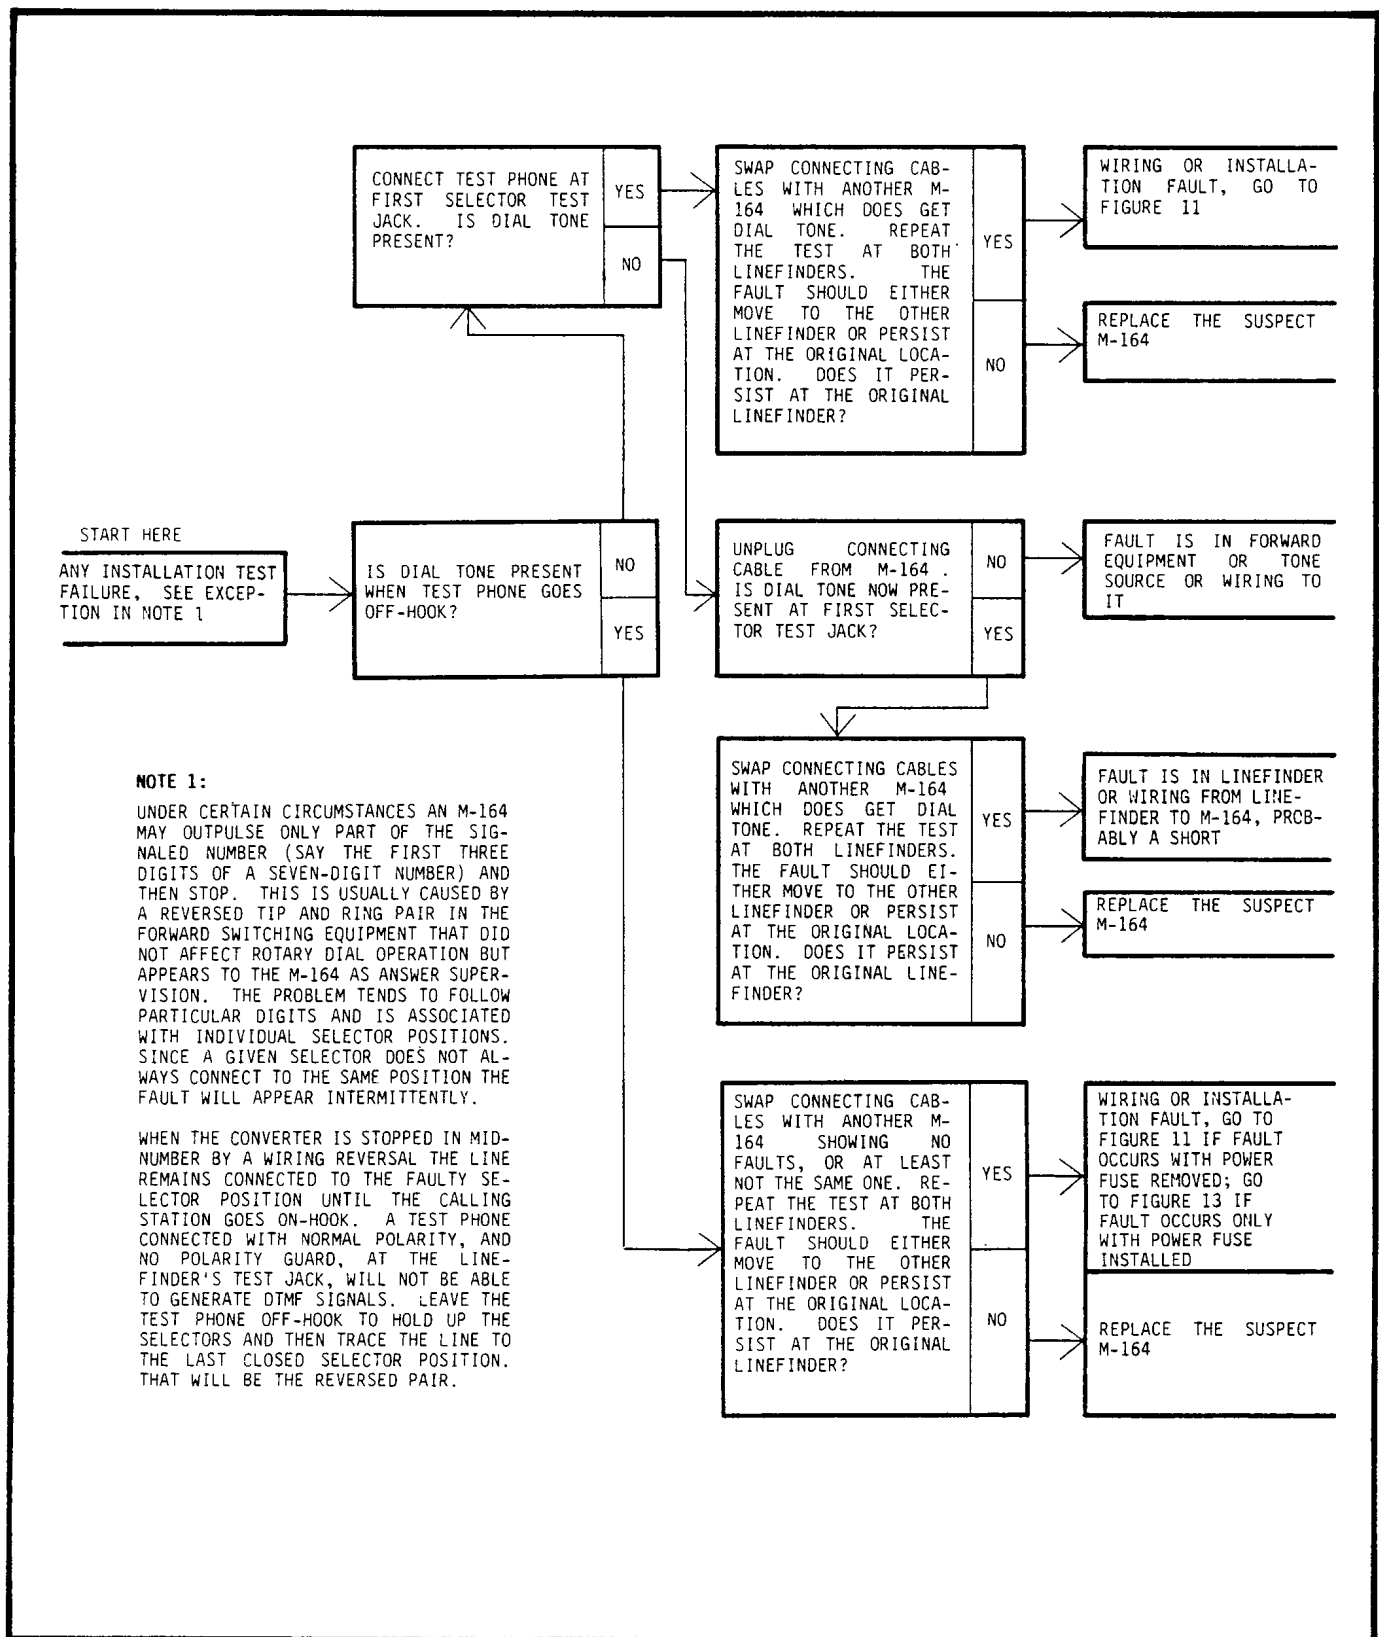

Figure 10 Troubleshooting Procedure
8.04 Which figure to use for isolating faults depends on whether the unit has been in service and operating properly prior to the failure or is an initial installation. If the unit has been in service and operating, use Figure 10. If the problem is with an initial installation, use Figure 11 or 13, depending on whether the fault occurs before or only after the power fuse is installed.